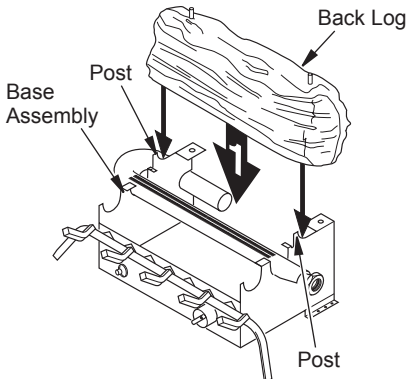

Figure 27 - Installing Back Log
1. Place the back log onto the back of the base assembly. Make sure log sits forward against the two posts in front of log (see Figure 27). This log may be turned to face either direction.